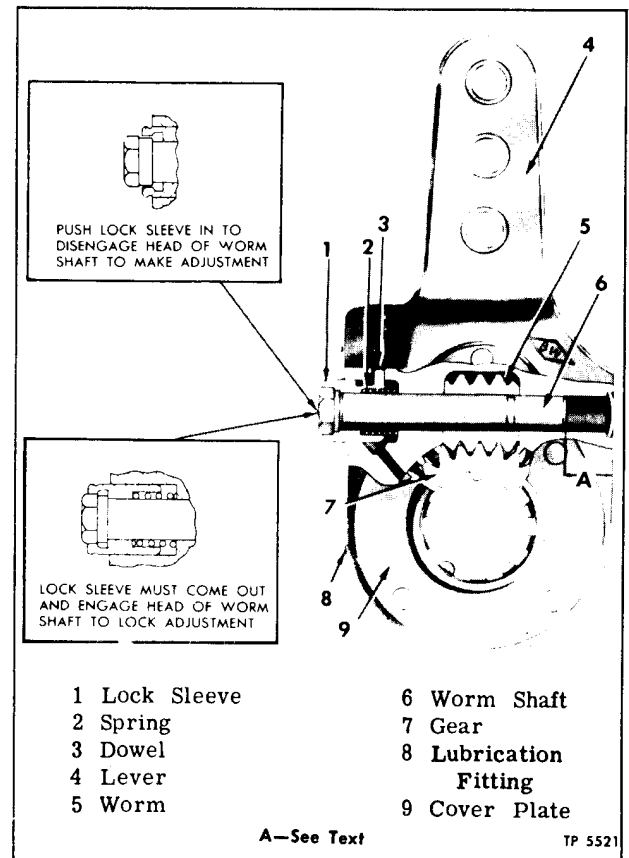
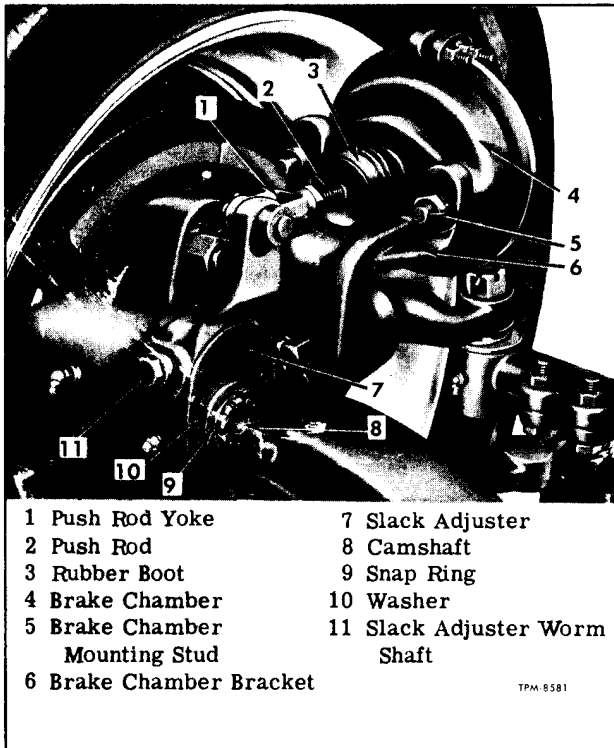
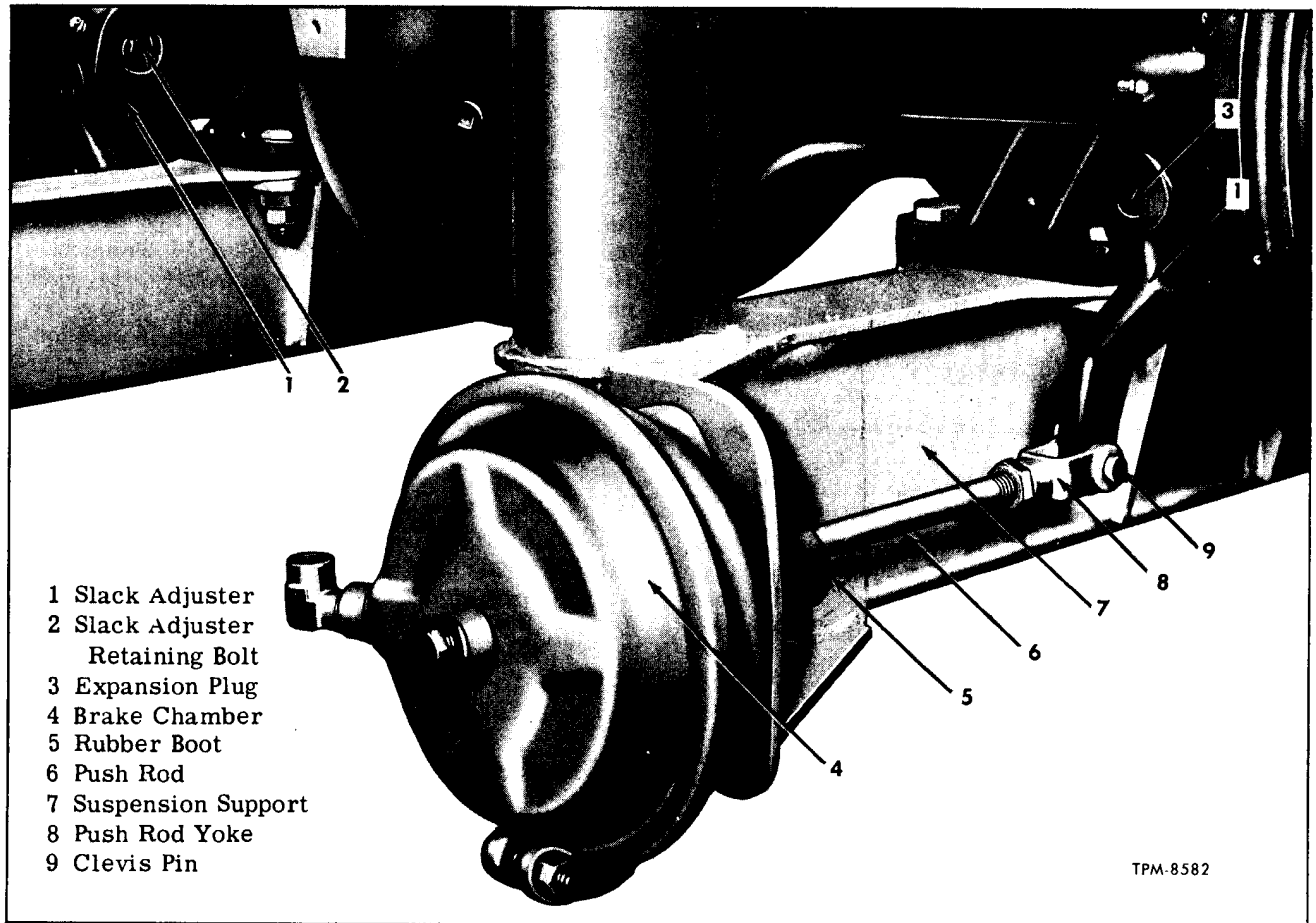

Figure 19—Slack Adjuster (Typical)
Figure 20—Brake Chamber, Bracket, and Slack Adjuster Mounted on Axle (Front)
Figure 21—Rear Brake Chamber and Slack Adjuster Mounting
Each front brake chamber is mounted at wheel as shown in figure 20. Rear brake chambers are mounted at rear end of rear suspension support (fig. 21). Front brake chambers are connected to air system through the application valve. Rear
Slack adjusters function as adjustable levers and provide a quick and easy method for adjusting brakes to compensate for normal lining wear. Positive locking type slack adjusters are used at front and rear brakes. Construction of both front and rear slack adjusters is shown in figure 19. Front and rear slack adjuster installations are shown in figures 20 and 21.
SLACK ADJUSTER REPLACEMENTRemoval (Fig. 20 or 21)
Installation (Fig. 20 or 21)
Disassembly (Fig. 19)
Assembly (Fig. 19)
3. Enter small end of worm shaft through hole in body and worm. Press worm shaft into worm and body, making sure the groove in lock sleeve is aligned with pin in body. Press shaft in until distance from small end of shaft to edge of body (A, fig. 19) is 9/16". Install welch plug in worm shaft bore.